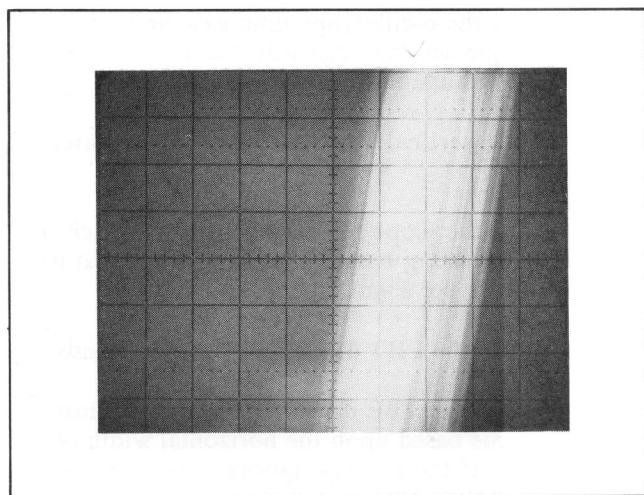

Figure 5-5. Time Base Error Oscilloscope Presentation
s. Adjust the scope intensity to a level which prevents trace blooming but still displays individual transient excursions, see Figure 5-5.